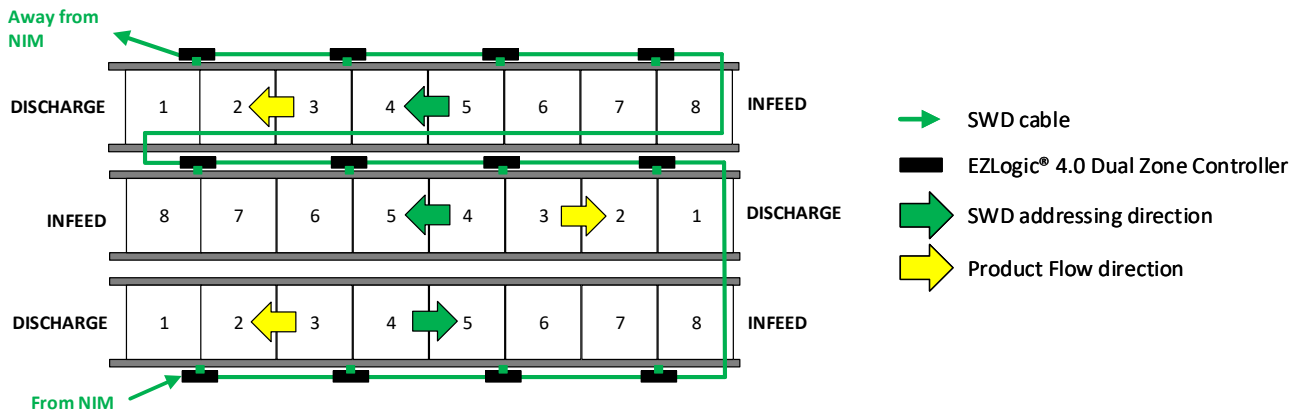

Figure 6: Shows up the wire way for the SWD wire bus.
5. Once the NIM's location has been specified for the system, daisy chain the zone controllers along the conveyor system, in some parts of the conveyor the direction of SWD addressing will run on the same direction the product flow, but for other conveyor sections it could be running against product flow. See figure 6.